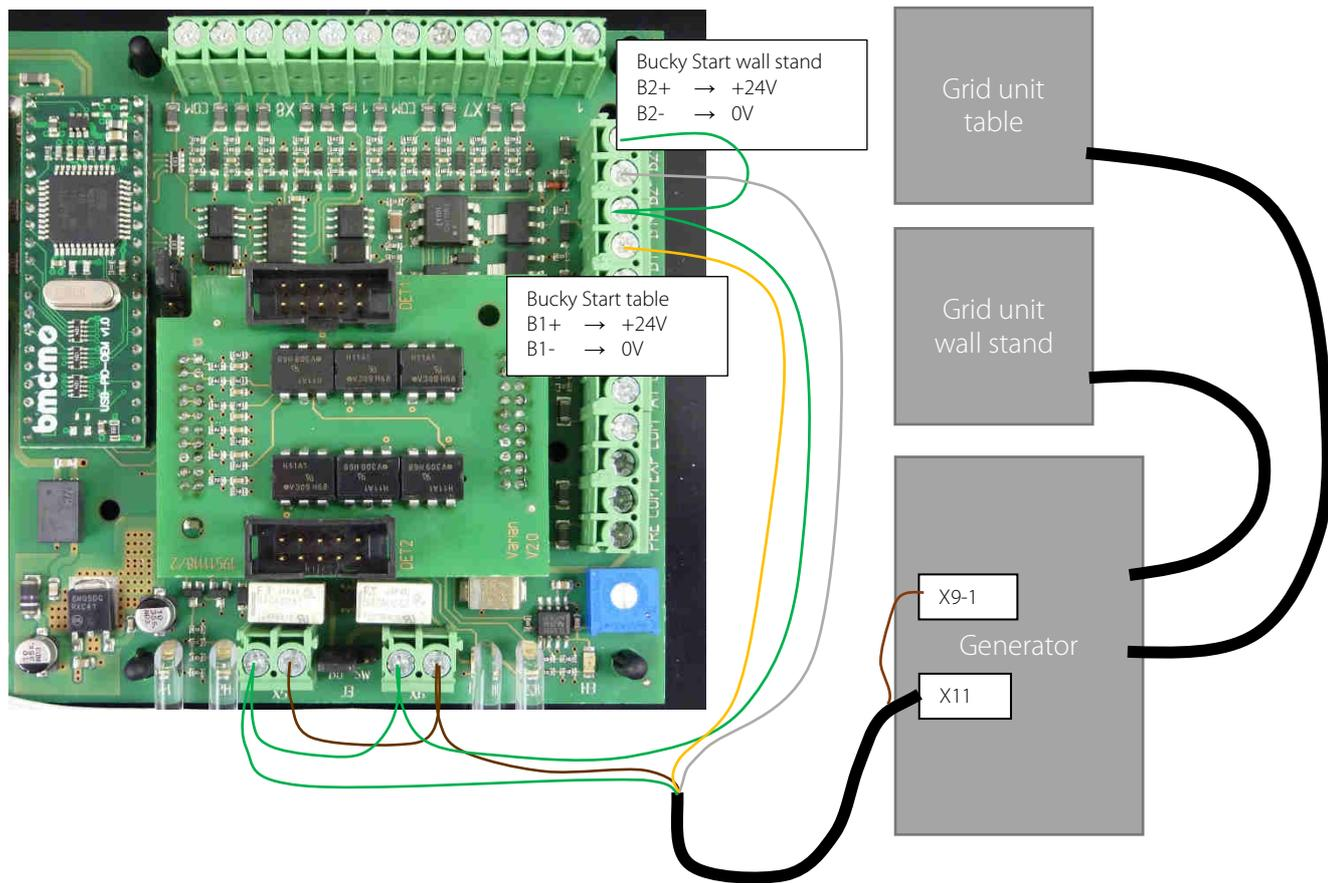
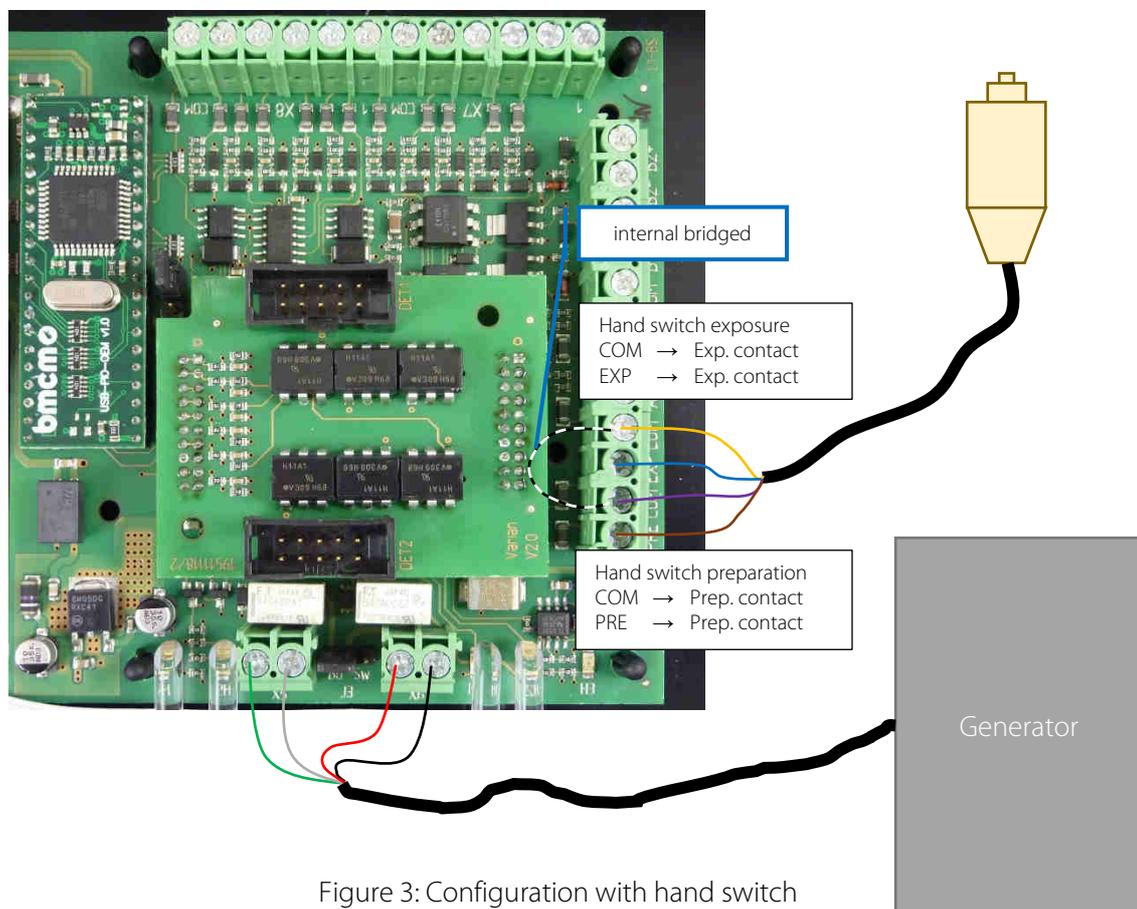

Figure 2: Connection with PROVARIO HF
Figure 3: Configuration with hand switch
- The connection types are described in the following figures. Figure 1 and Figure 2 are to be selected according to the generator connection. Figure 3 shows the direct connection of the hand switch to the INTERFACE BOX.